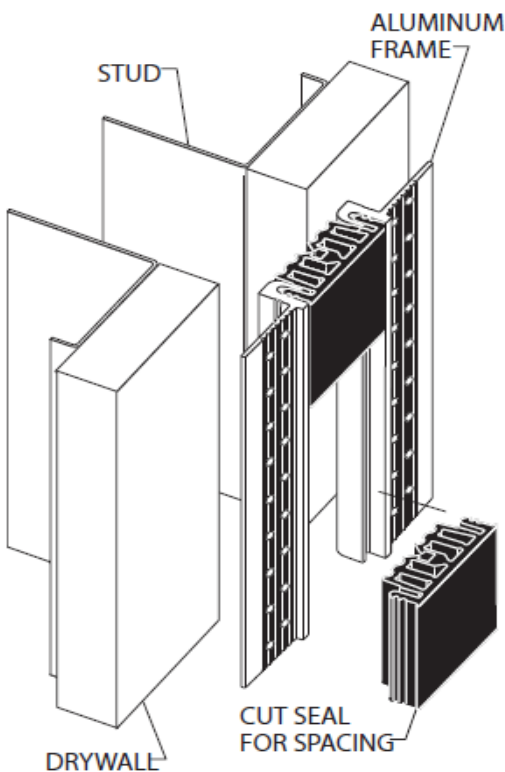

FIG. 1A (113-A09 WALL TO CORNER SHOWN)
- 4a) For wall to corner systems, place the assembly into the structural gap so the recessed frame is firmly against the corner wall. Align plumb; making sure the top of the frames are level. Transfer the location of the top edge of the recessed frame to the wall using a marker. For proper spacing on the 113 series, several mounting holes on the wall frame should also be marked (see Figure 1a).